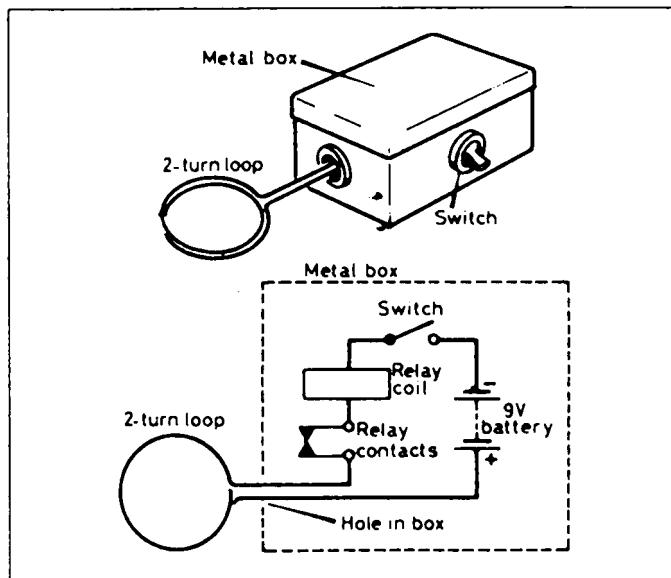

Figure 2 The current path is interrupted when relay is energised as shown above
This is a simple piece of test gear that will increase your knowledge and understanding of resonance. You can use it to estimate the resonant frequency of most of the inductor/capacitor (LC) tuned circuits that you build. The circuit is shown in Figure 2. It operates around a relay. Any relay that operates from a 6 V to 9 V source and has contacts which are normally closed (i.e. closed when the battery is not connected). Fit the relay, a toggle switch and the battery in a metal box, and connected up as shown in the diagram. Some foam rubber inside the box may help to reduce the escaping noise of the relay. A small hole in the side of the box enables the 2-turn loop to emerge. This should be about 40 mm diameter, made with insulated wire. Switch on; there should be a loud buzzing noise from the relay. If not, you have probably chosen the wrong contacts on the relay!